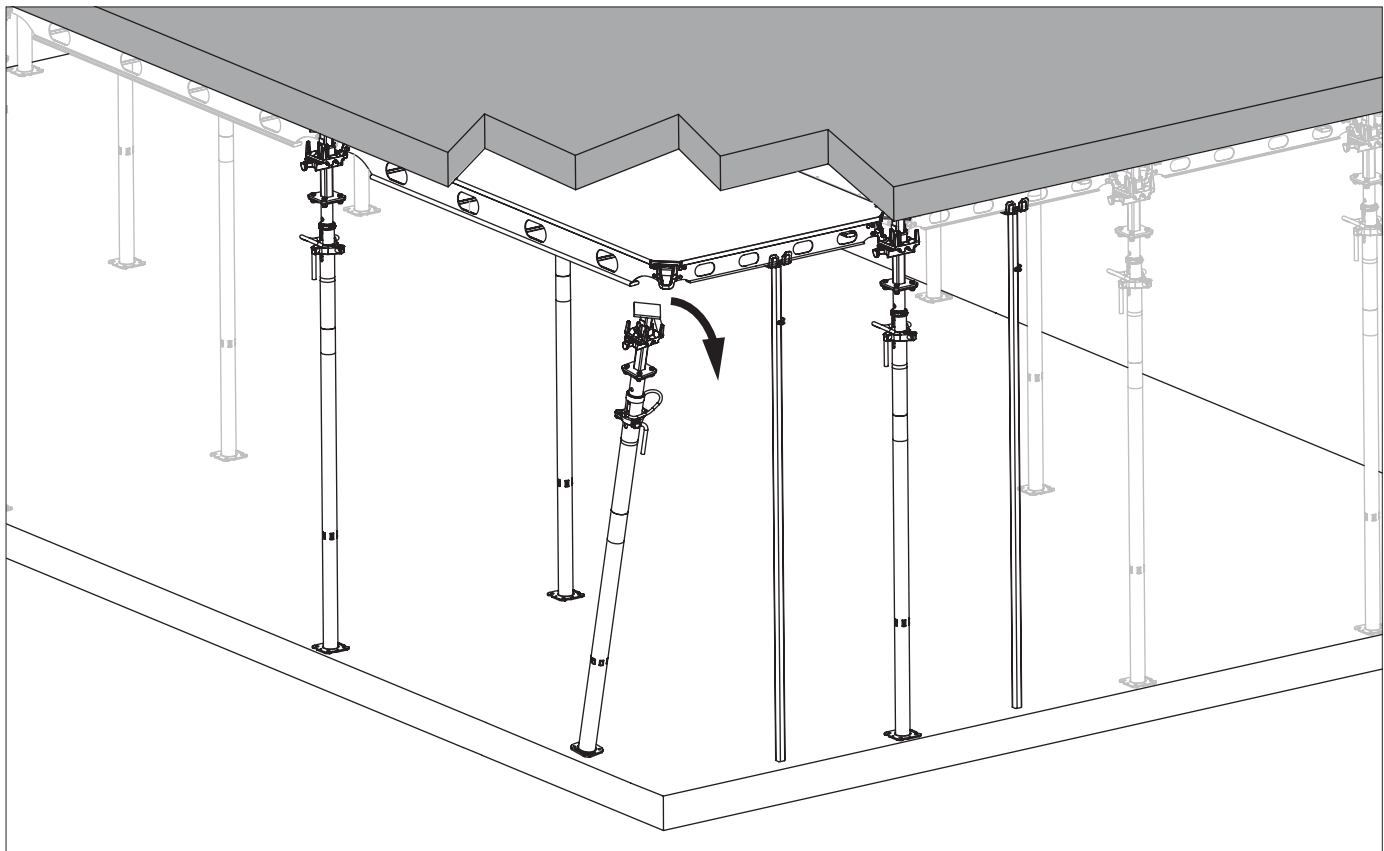

Fig. A11.07
1. Support the panel edge at the middle using two shuttering aids in the shorter direction for the first two bays. (Fig. A11.07)